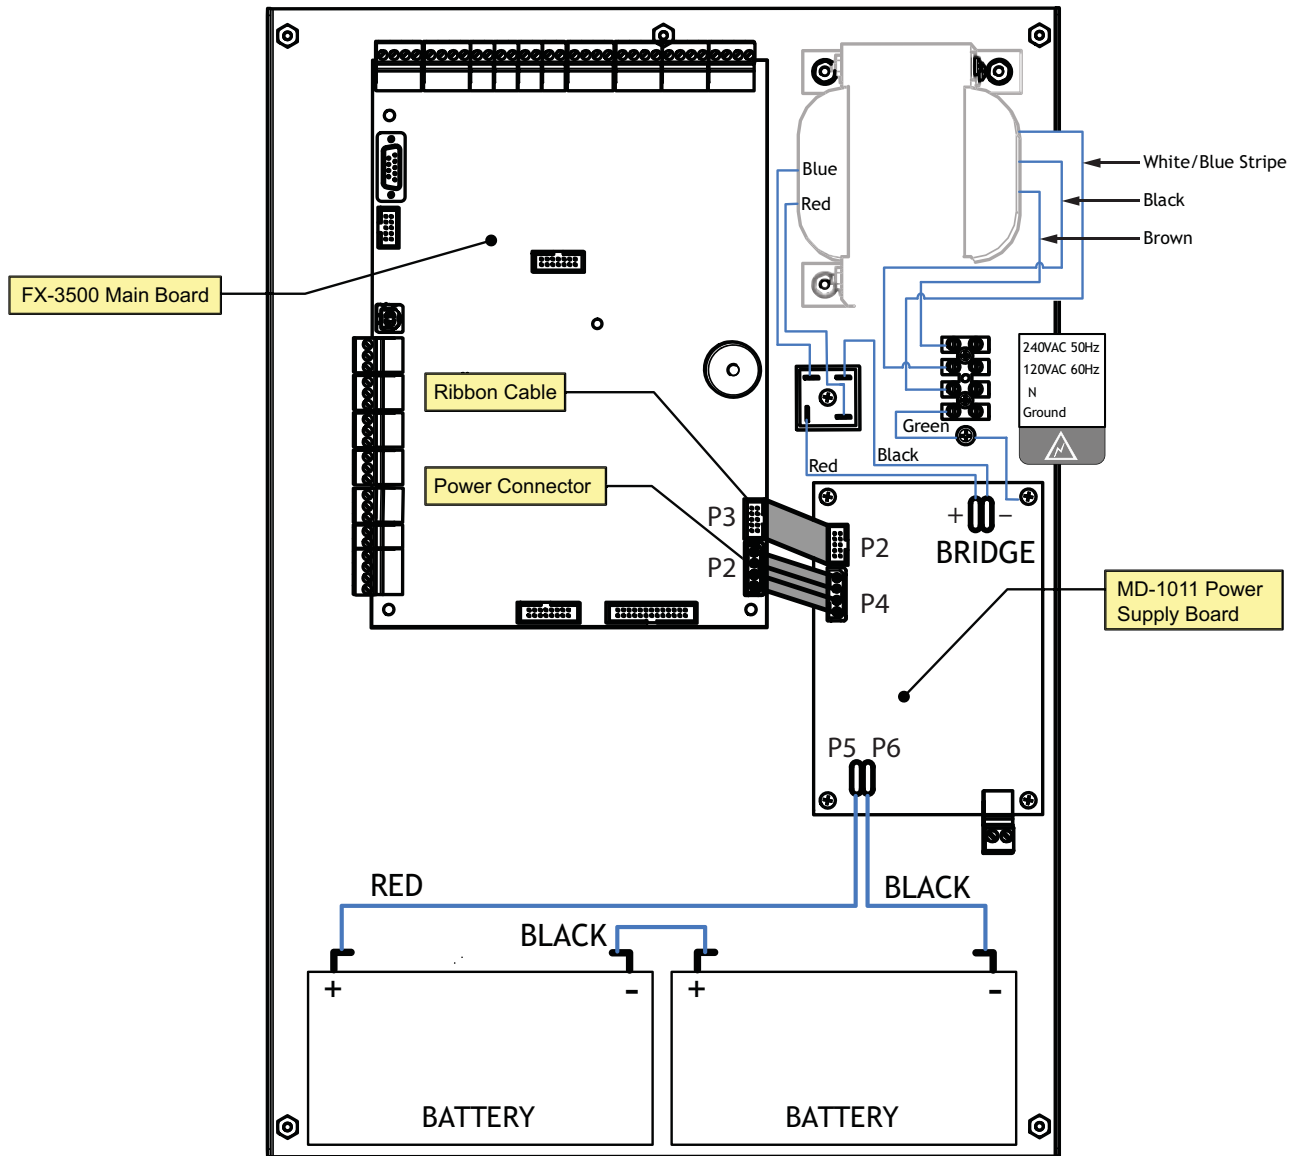

Figure 22 Main Power Supply Wiring and Connections
Wire the Power Supply as shown in Figure 22 and adhere to the following:
- Wire the AC power to the AC wiring terminals as shown in Figure 22 using the proper wire gauge with 600 volt insulation and proper over current circuit protection that complies with local codes.